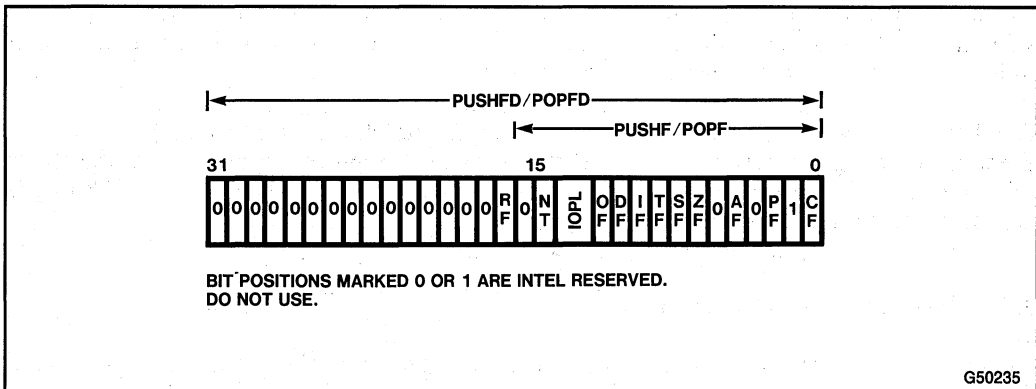

Figure 3-22. Flags Used with PUSHF and POPF
**PUSHFD (Push Flags)** (see Figure 3-22). The PUSHFD instruction pushes the entire EFLAGS register onto the stack (the RF flag reads as zero, however).